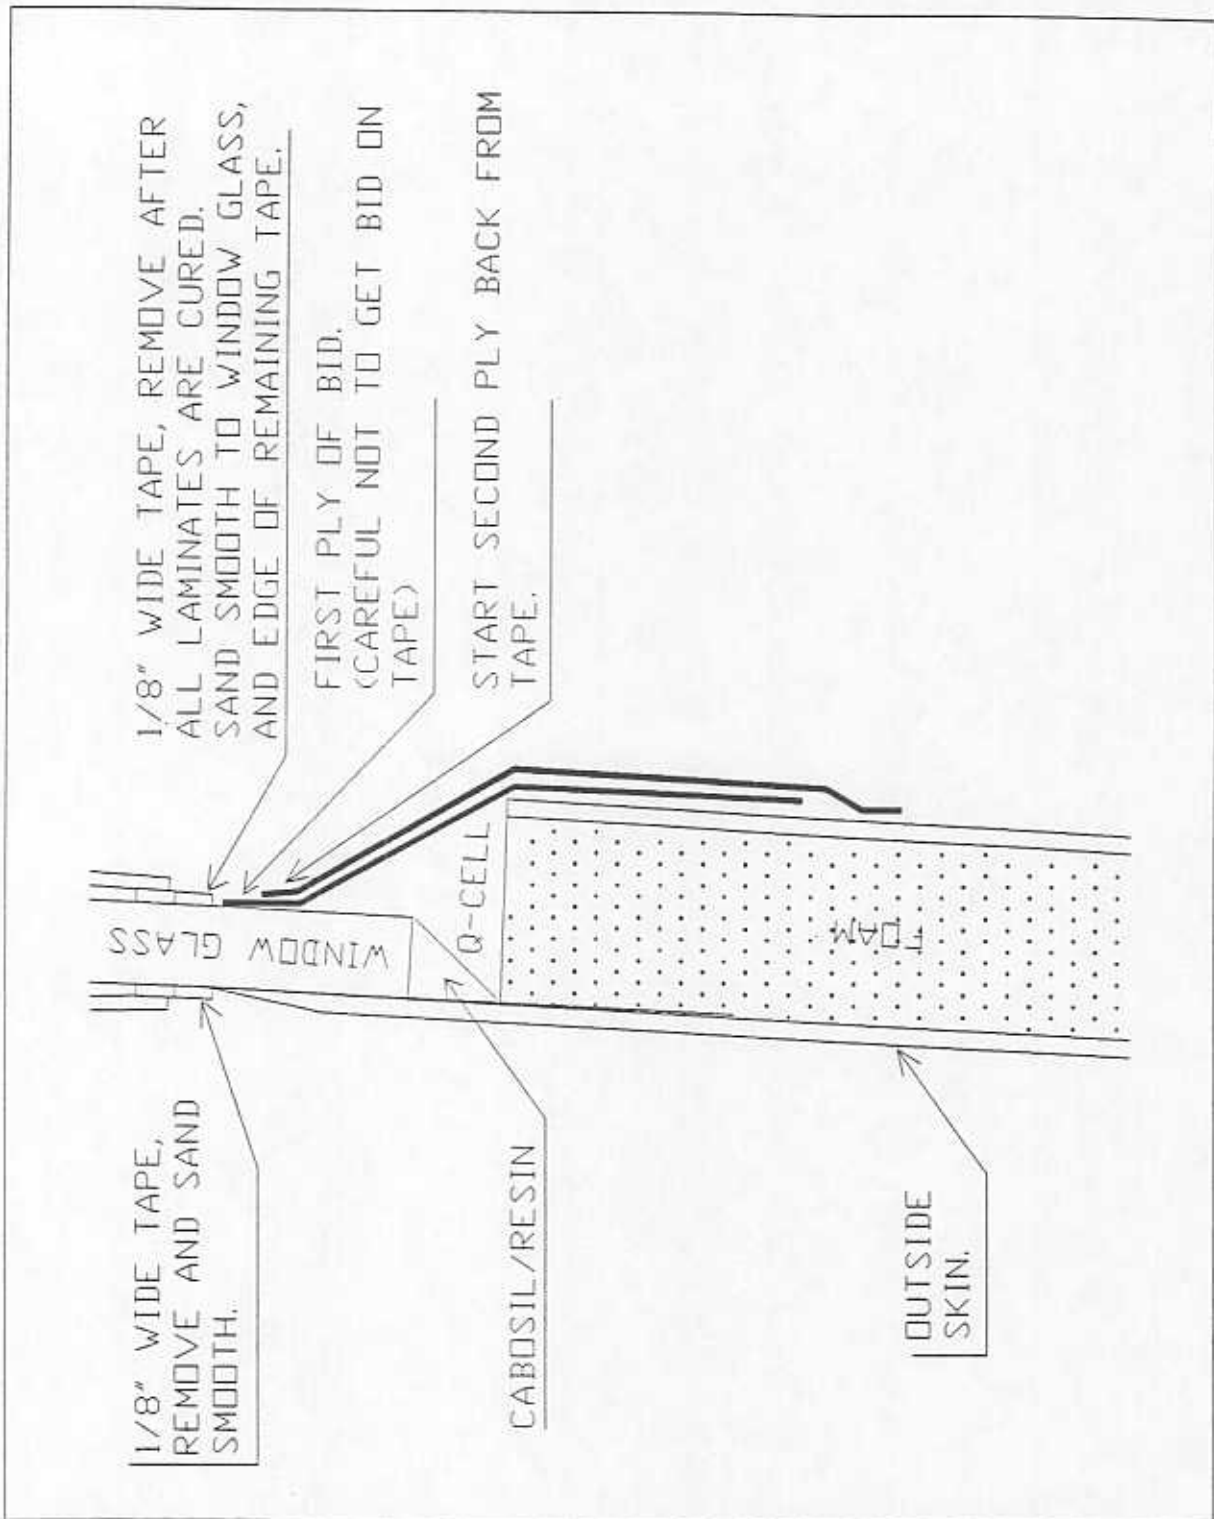

FIGURE 7.100-7
After cured, sand and apply two (2) plies of 45 deg. BID extending to the tape, but not over it, to 1" over inside skin, as per Figure 7.100-7. Do this step as neatly as possible, it will be the reveal of the window.
Remove the outside 1/8" layer of tape. Use #100 grit sandpaper to finish the bevel and fillet on the exterior of each window. This finish sanding should blend the fuselage smoothly into the window at the masked paint line. See Figure 7.100-7.